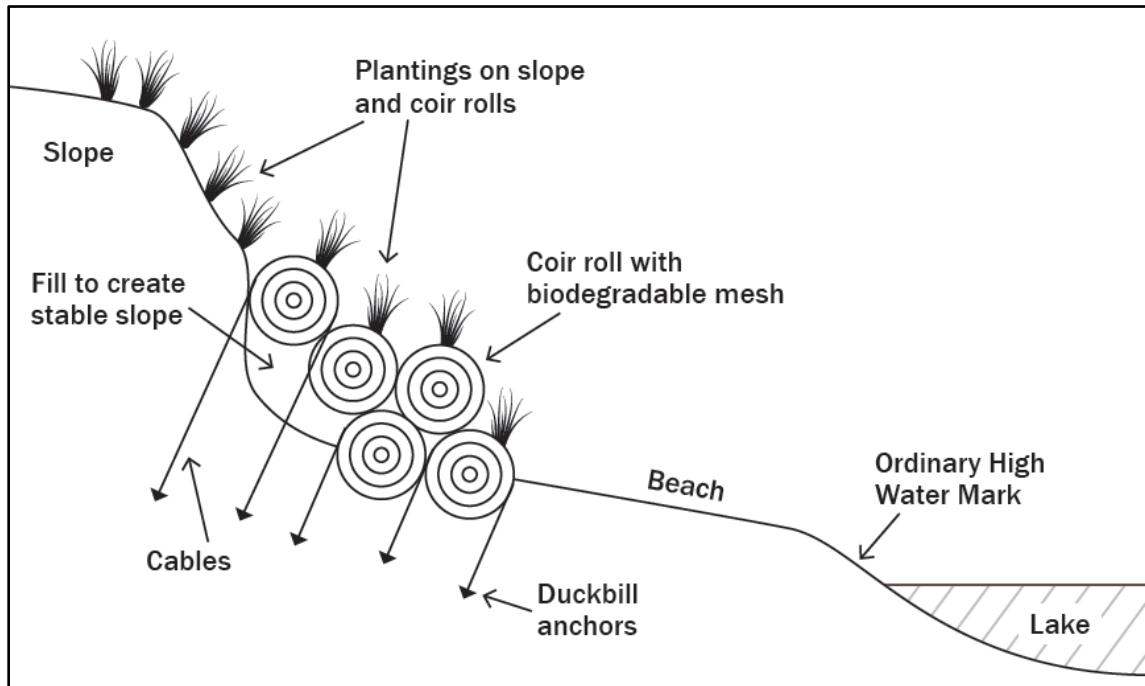

Figure 2. Cross-Section of Bluff/Bank Bioengineering Using Coir Rolls. (Adapted from Massachusetts, 2016.)
- Bioengineering with Coir Rolls - If the toe of a bank is eroding, the upper bank might collapse even if it is well vegetated. Coir rolls can be used to protect and stabilize the toe of a bank or bluff by providing a physical barrier that buffers waves and reduces erosion of exposed sediment, as depicted in Figure 2. Coir rolls provide stability and protection to the site while the vegetation planted in and above the rolls becomes established. As the coir rolls disintegrate, typically over 5 to seven 7 years, the plants take over the job of site stabilization. Considerations in the design and use of coir rolls include: